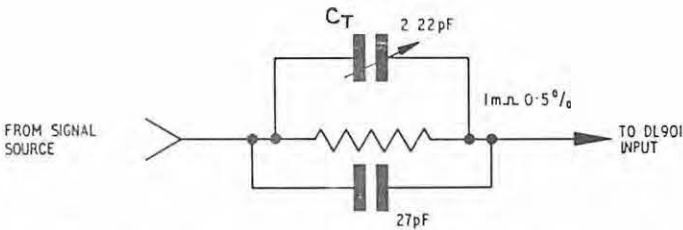

Figure 5-4 Input Capacitance Equalisation Network
- (a) Set Volts full scale switch to 0,05V. Adjust generator output to suit display, adjust C_T of network Figure 5-4 for optimum square wave.